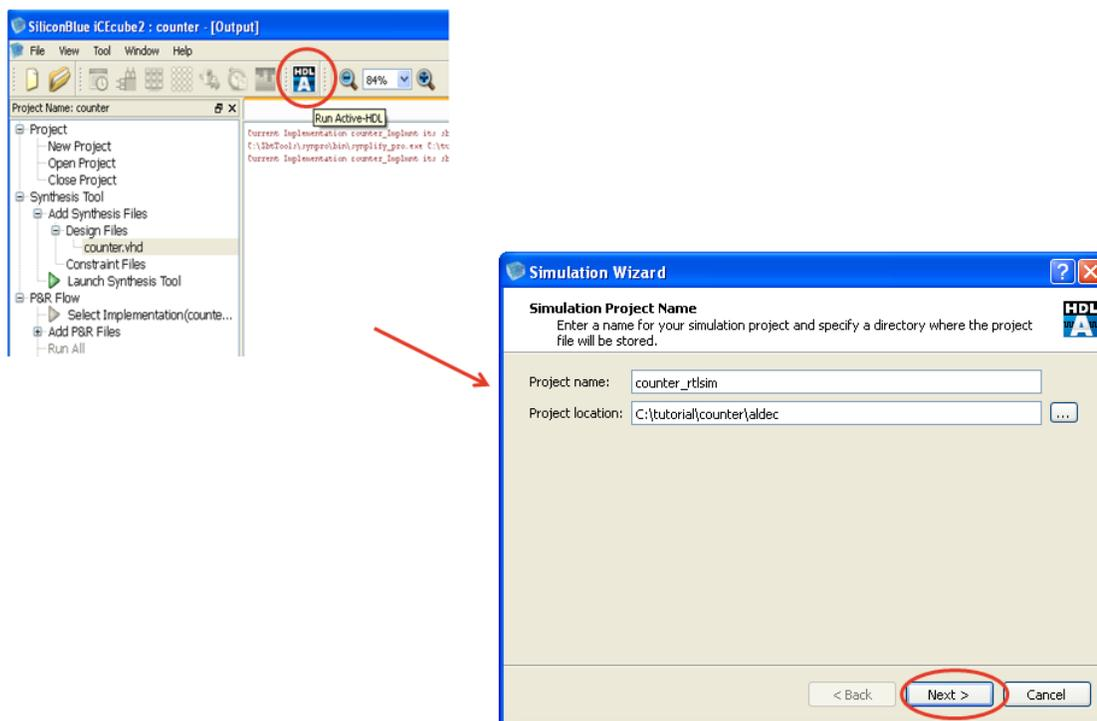

Figure 10-2: Launch Simulation Wizard and Specify Simulation Project name.
1. After creating iCECube2 project and added the RTL design files, launch simulation wizard by selecting the “AHDL” icon menu as shown in Figure 10-2. In the Simulation Wizard specify the simulation project name and simulation project location. The default project location is “Current iCEcube2 project directory\aldec”. Click on “Next” icon.